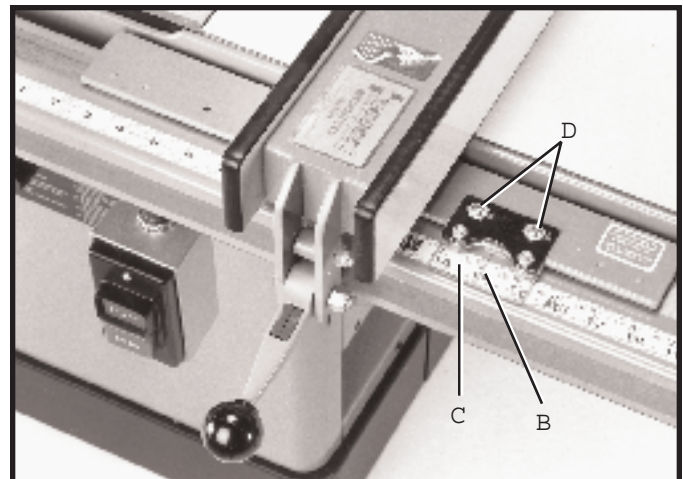

Fig. 26
2. The distance the fence is positioned away from the blade is indicated by the witness line (B) Fig. 26, located on the cursor (C). If it is necessary to adjust the cursor (C), make a test cut with the fence locked in position. Measure the width of the finished cut and adjust the cursor (C) by loosening the two screws (D), adjusting the cursor (C) until the witness line (B) is aligned with the same marking on the scale as the finished cut. Then tighten the two screws (D).